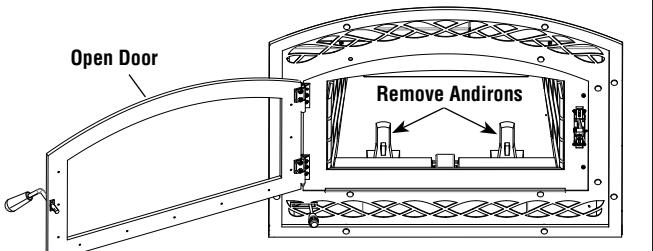

Figure 17A
2. Open the door (**Figure 17A**).
3. Remove both andirons from inside the firebox (**Figure 17A**).